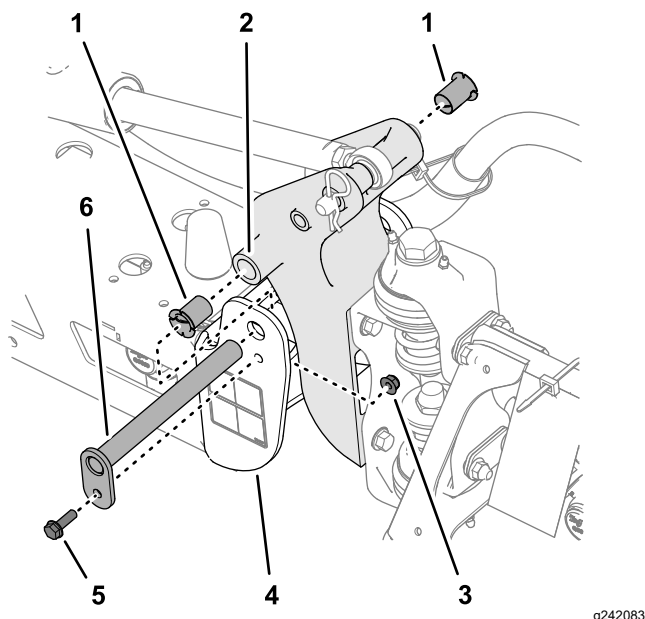

Figure 151
3. Remove the bolt and nut that secure the pivot pin, and remove the pin (Figure 151).
5. Remove and inspect the nylon bushings from the front and back sides of the pivot bracket (Figure 151).
6. Lubricate the nylon bushings with a small amount of oil, and install the bushings into the pivot bracket (Figure 151).
7. Align the holes in the pivot bracket with the holes in the end channel (Figure 151).